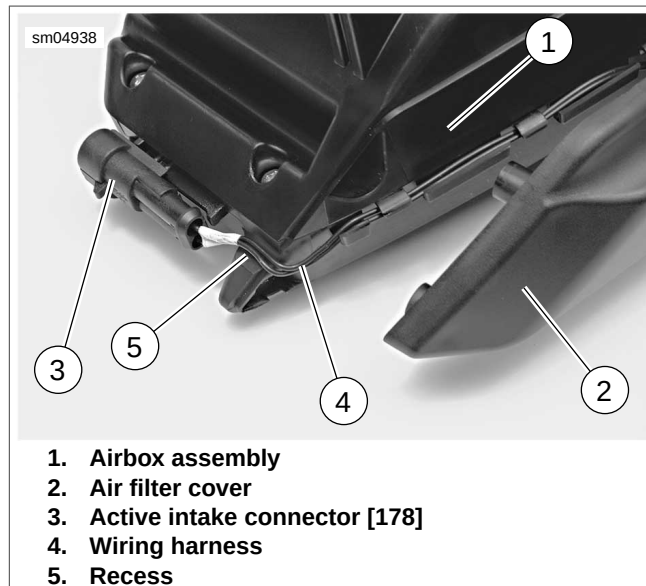

Figure 1-104. Installing Air Filter Cover
4. See Figure 1-104. Make sure active intake connector wiring harness (4) is in recess (5) in airbox (1) and cannot be pinched or cut when air filter cover (2) is installed.